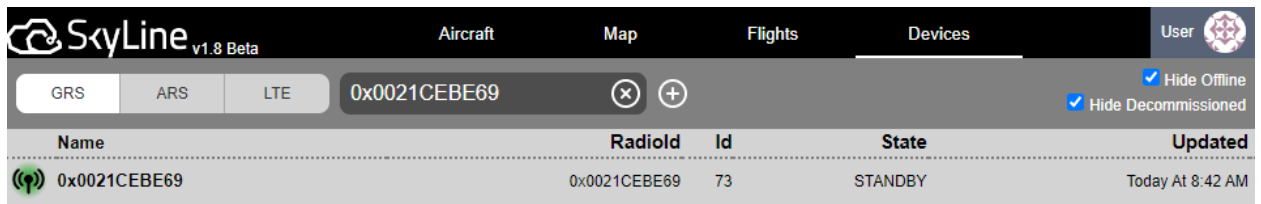

Figure 13: Connecting device under Devices>GRS
6. Go to the specific SkyLine POD (e.g. <https://test2.skyline.uavionix.com>) and confirm that the device appears under Devices > GRS. The device will be named the Radio ID (shown on webpage – e.g. 0x0021CEBE69). See Figure 13.